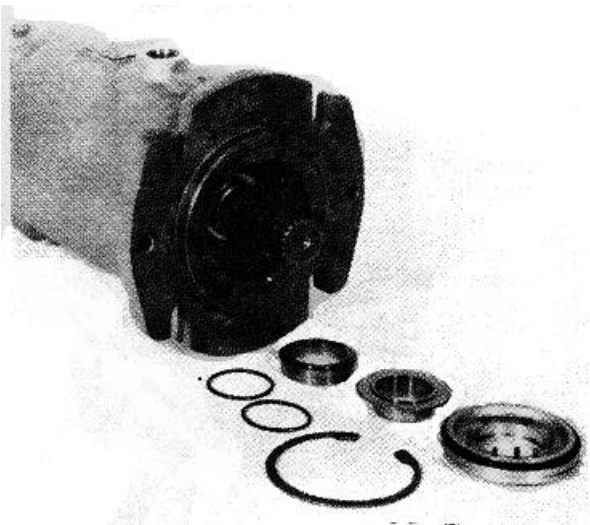

FIGURE 7-63.
(see figure 7-63).
- f. See figure 7-63 and account for all the parts shown.